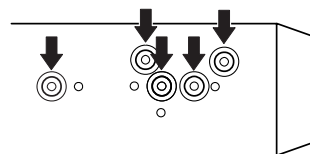
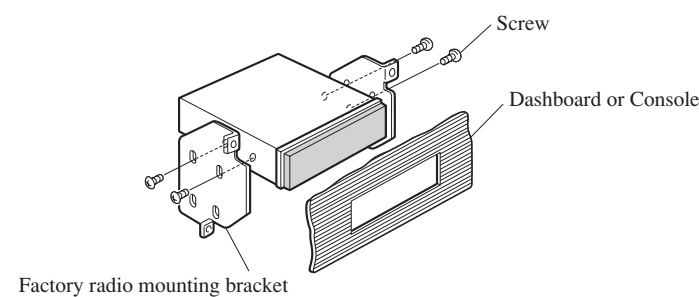

Fig. 10
Fig.11
2. Fastening the unit to the factory radio mounting bracket. (Fig. 10) (Fig. 11)